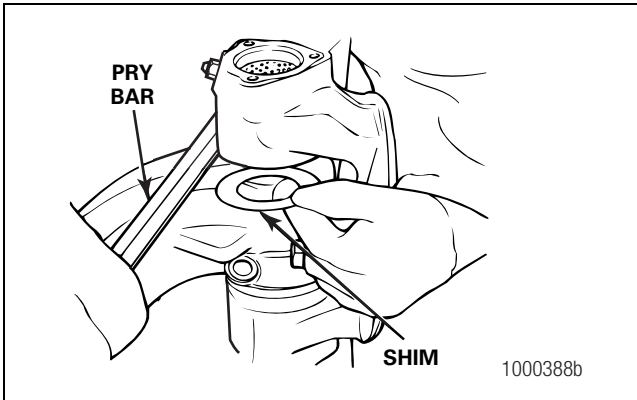

Figure 6.16
7. Place a pry bar between the steering arm boss and the axle beam. Lift the knuckle and slide the shim pack between the top of the beam and the knuckle. Figure 6.16.